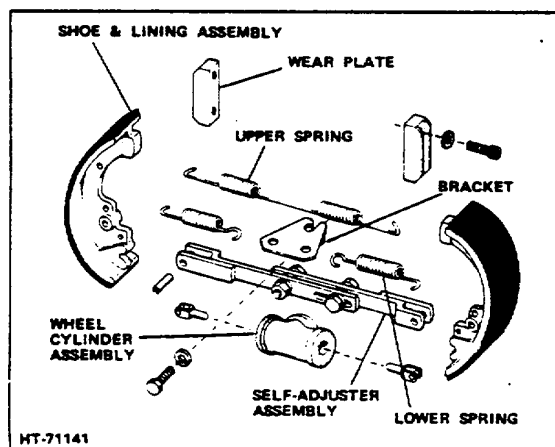

Figure 2-6. Self-Adjusting Brakes
- i. Install brake shoes with self-adjuster and install springs (Fig 2-6).